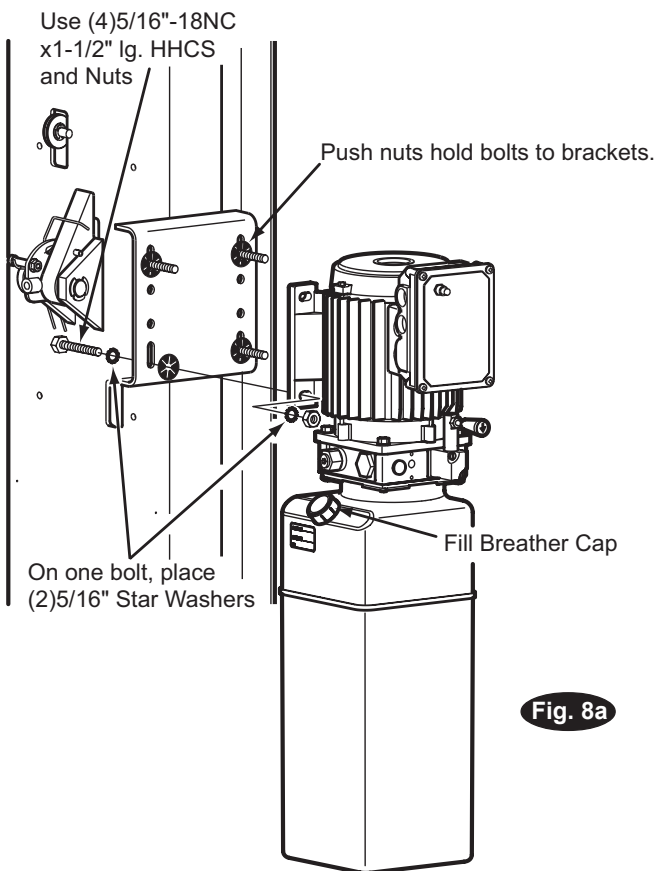

Fig. 8a
9. Power Unit: First install (1) star washer onto one of the (4) 5/16"-18NC x 1-1/2" HHCS. *This is very important for grounding.* Put the (4) 5/16"-18NC x 1-1/2" HHCS thru holes in power unit bracket using Push-Nuts to hold in place, Fig. 8a. Mount unit with motor up to column bracket and install (4) 5/16" star washers and 5/16" Nuts. Install and hand tighten Branch Tee to pump until O-ring is seated. Continue to tighten the locknut to 10-15 ft-lbs., or until the nut and washer bottom out against the pump manifold. **NOTE:** You may still be able to rotate the Branch Tee. This is acceptable unless there is seepage at the O-ring. If so, slightly tighten the locknut.